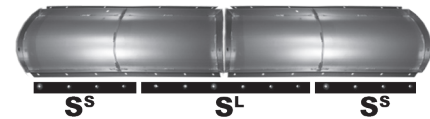

fig.4
4. Attach the scraper (three pieces, a long, S^L and two short ones, S^S; fig.4, at left) to the front lower edge of the full blade using 25 mm (1") x M10 grade 8 carriage bolts, 10 mm washers, and M10 Nylock nuts (fig.5). The long piece of the scraper overlaps both halves of the blade. The shorter piece fills in the rest. The carriage bolts are inserted so that their domed caps are at the front of scraper, which lies on the lower front (concave side) edge of the blade. The nuts screw on from the back (convex) side of the plow blade. Tighten the nuts.